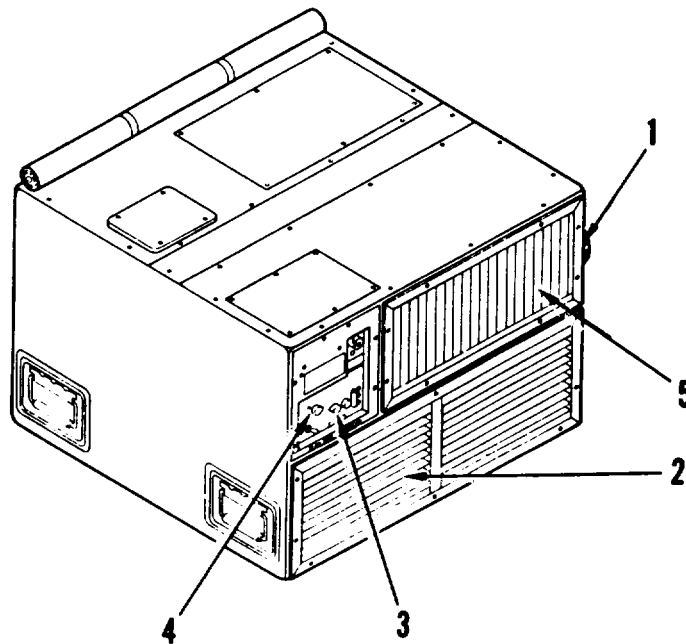

Figure 2-9. Operating instructions for heating.
e. Operating Instructions for Heating (See Figure 2-9). Operate the air conditioner for heating as follows: